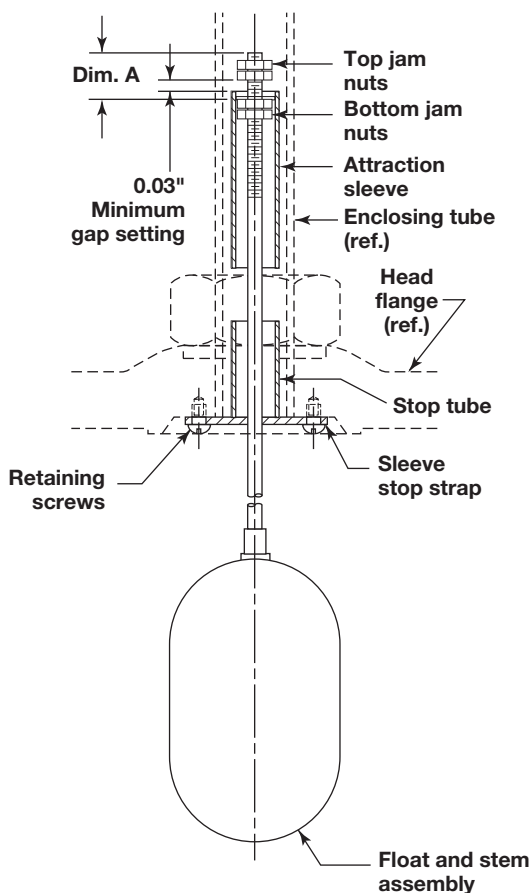

Figure 10
- 8.1 Remove the stem assembly including attraction sleeve from the head assembly by removing the two screws holding the stop strap to the bottom of the flange. See **Figure 10** for assembly schematic.